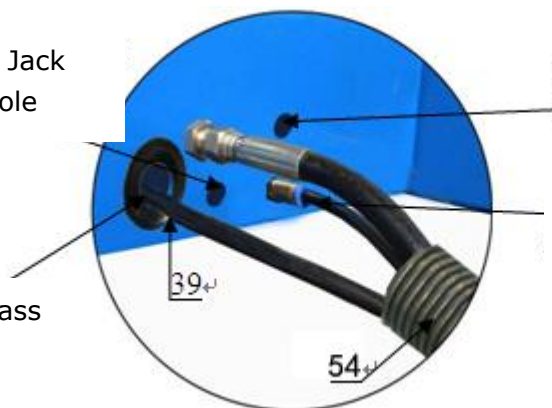

Fig. 28
4. Connecting Oil hose and Air lines (See Fig. 28)